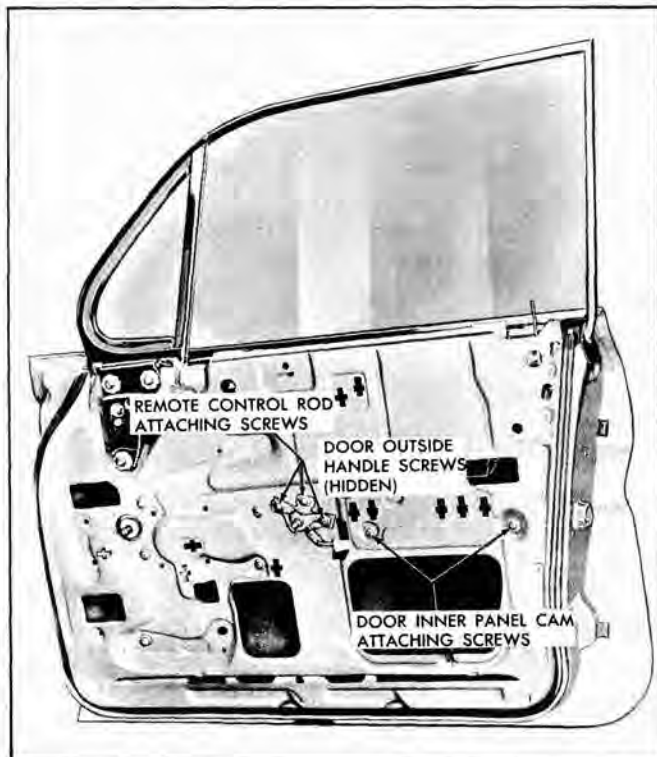

Fig. 3-22 Front Door Hardware
2. Remove screws securing door inner panel cam assembly, then disengage cam from window regulator balance arm and remove from door (Figure 3-22).
2. Remove remote control attaching screws and disengage remote control from connecting rod (Fig. 3-22).